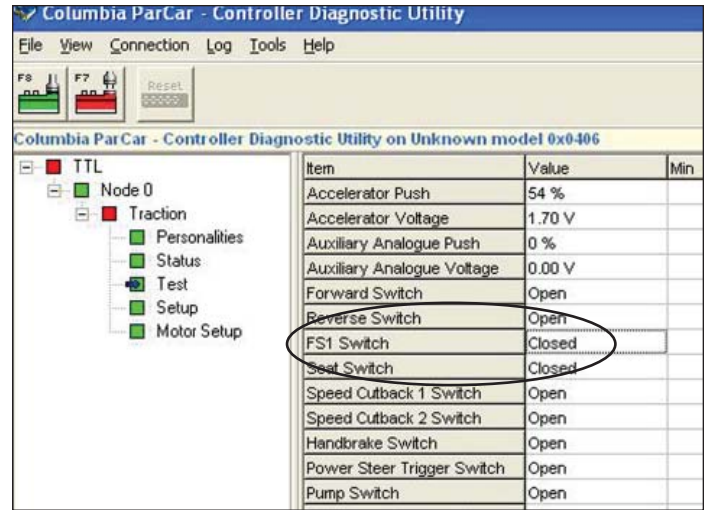

Figure 4-4. FS1 Switch Test
3. Check the FS1 Switch input on the same screen. With the accelerator at rest, the value for the FS1 Switch should read “open”. When the accelerator pedal is pressed, the value should change to “closed” (Figure 4-4). If the value fails to close, check the FS1 wiring circuit and test the switch with a VOM. Check the wiring back to the controller (Pin 4).